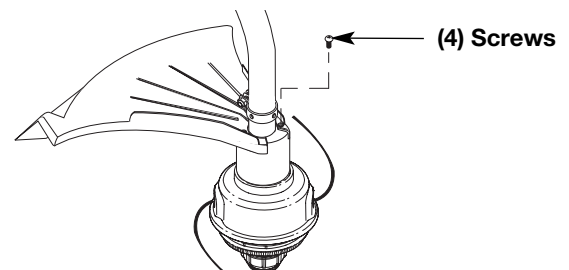

Fig. 5
3. Install the screws with a Phillips screwdriver (Fig. 5).